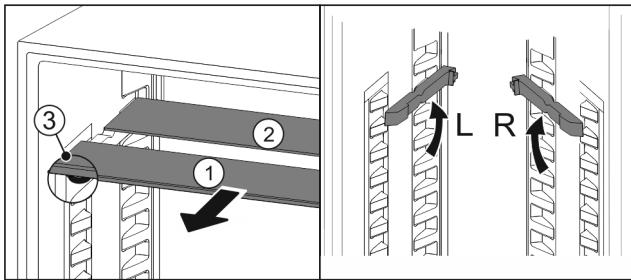

Fig. 25
- ▶ Pull the glass panels out Fig. 25 (1) from the front, one at a time.
- ▷ The glass panel Fig. 25 (1) with the trim strip is at the front.
- ▷ The stops Fig. 25 (3) point downward.